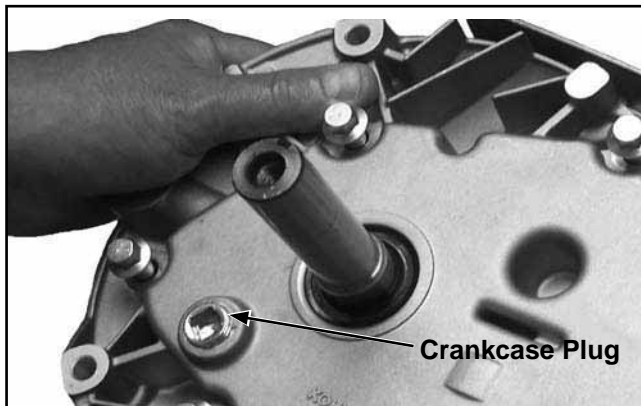

Figure 6-6. Crankcase Plug.
3. Remove the crankcase plug on the bottom of the engine and drain oil into an approved container. See Figure 6-6.